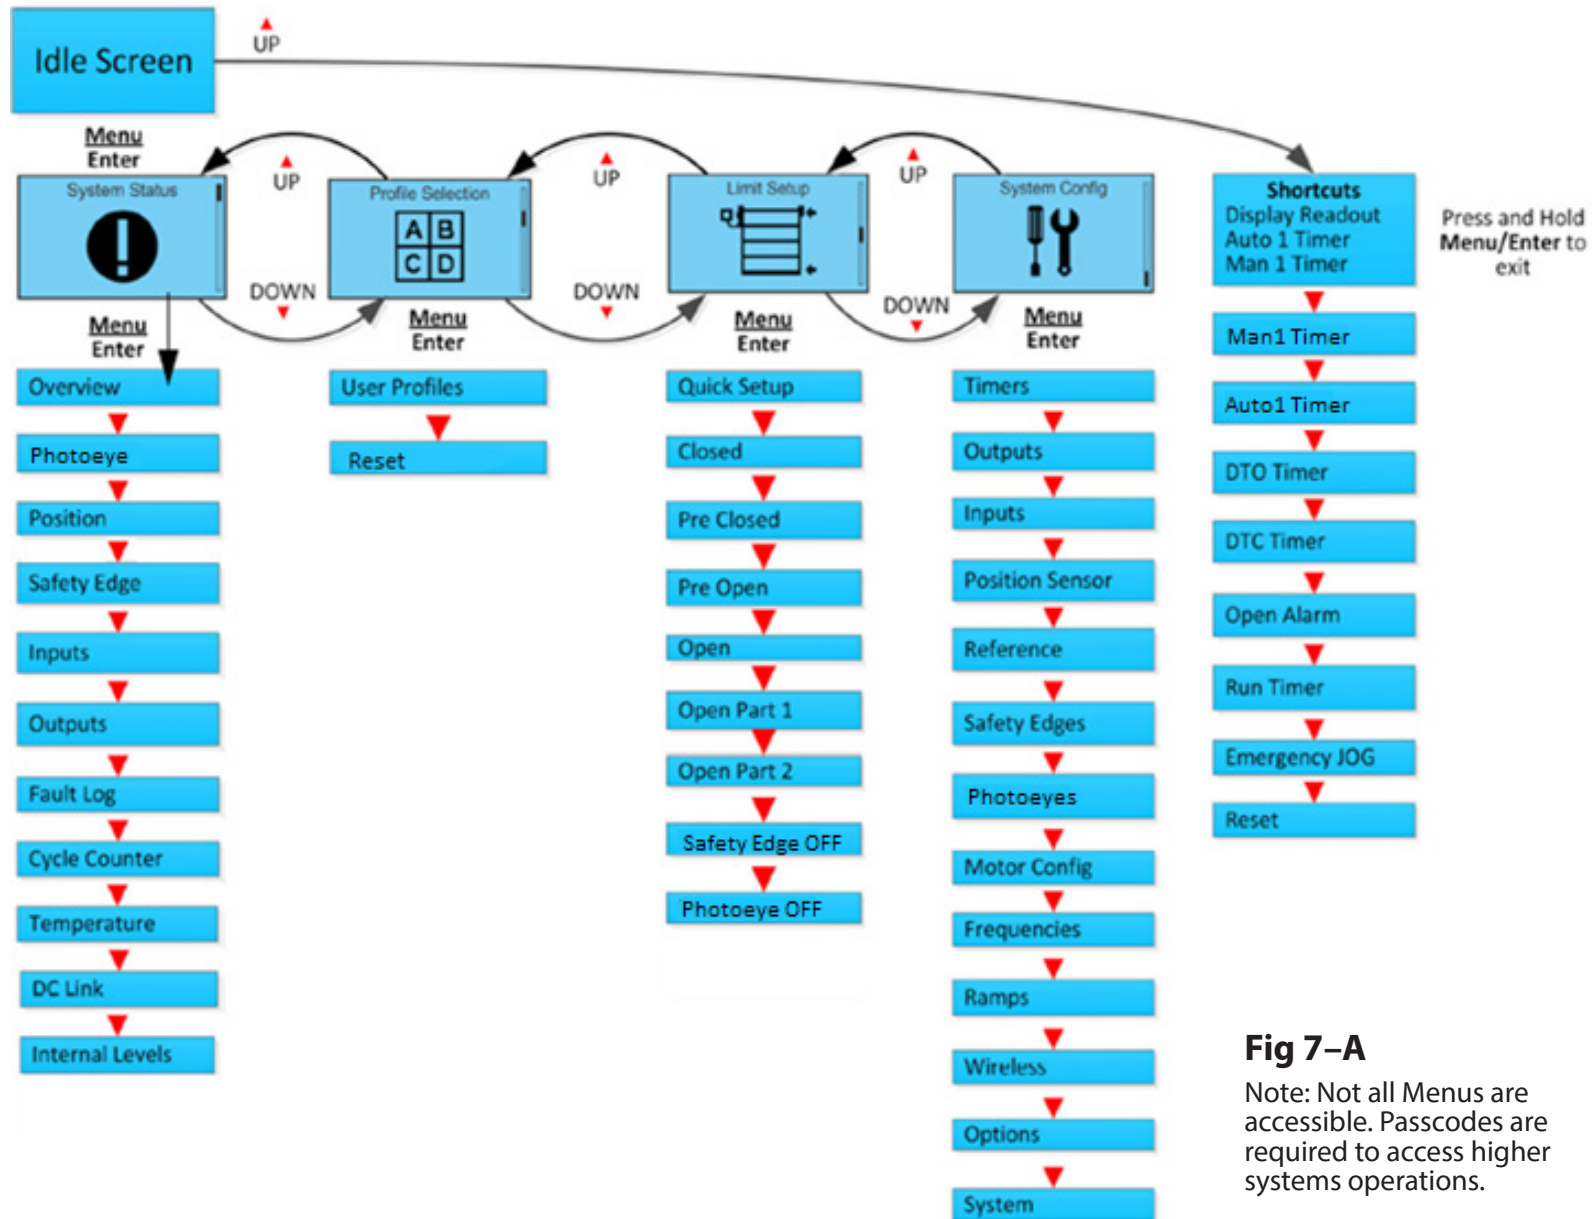

Fig 7-A
A. To enter the Menu, press and hold the OPEN, STOP, CLOSE membrane buttons for 3 seconds. A count down timer on the top left corner of the LED screen will display the remaining time left to hold. Refer to **Fig 7-A** pg 32 for the complete menu structure.